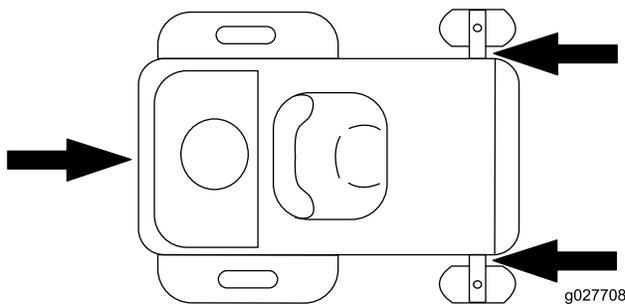

Figure 16
5. Tie down the machine near the front caster wheels and the rear bumper (Figure 16).